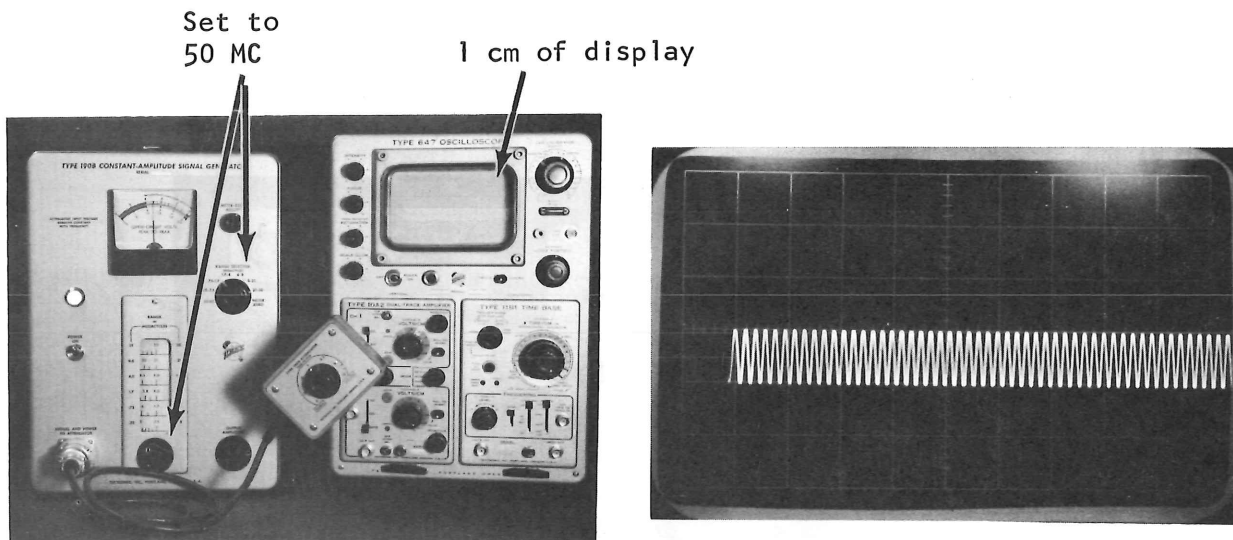

Figure 12
2. Connect the 190B constant amplitude sine wave generator to the vertical input using a UHF to BNC adapter. See Figure 12.
5. Adjust LEVEL control for a stable display (may have to adjust HF stability control). See Figure 12.